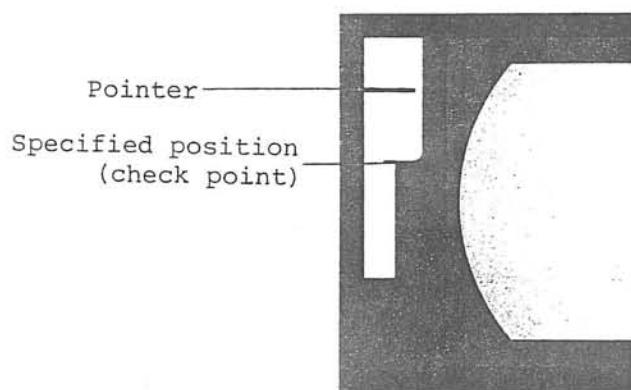

Fig. 16
2. Adequate voltage supply is assured when the pointer swings upward away from the check point. The distance between the pointer and the check point decreases as voltage drops. (Fig. 16)